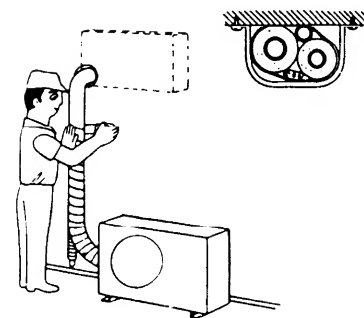

Fig. 31
- b) Wrap the armoring tape from the bottom of the outdoor unit to the top of the piping, where it enters the wall. As you wrap the piping cover half of each previous tape turn. Fig. 31